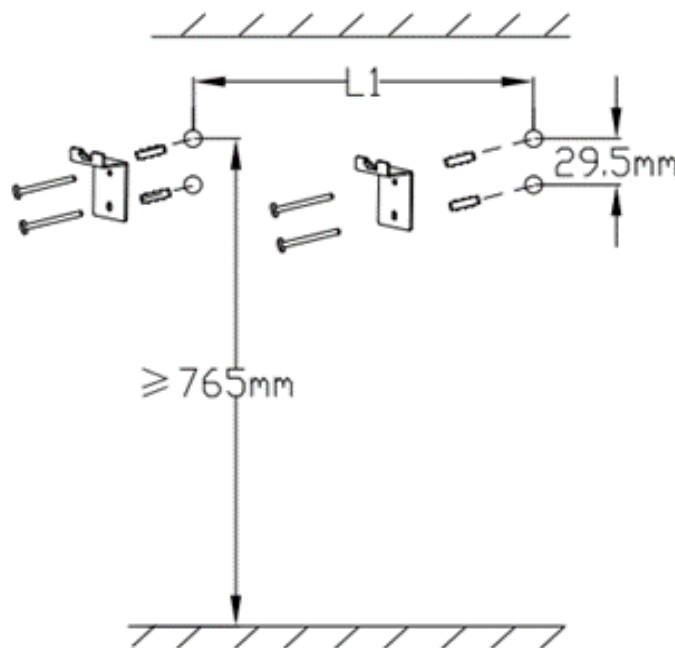

Figure 2: Upper bracket positions on the wall
(**Table 3, Figure 2**)
- Use 4 of the long screws to secure the upper brackets to the wall with the hooks facing upwards (**Figure 2**)